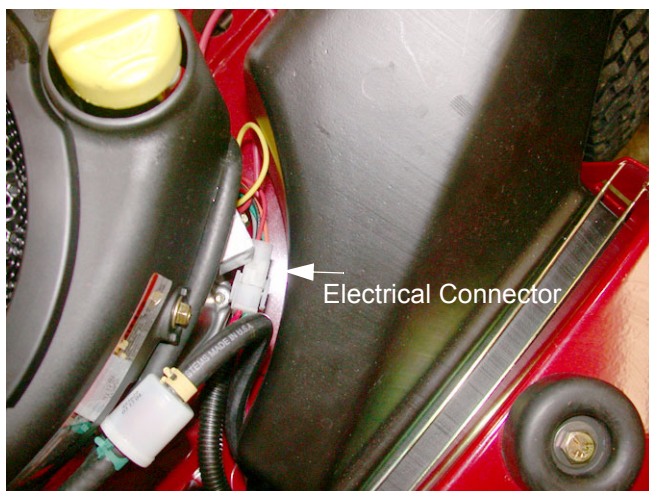

Figure 15.5
- 15.5. Disconnect electrical connector between the tank and the engine to allow room for the tank to slide out. See Figure 15.5.